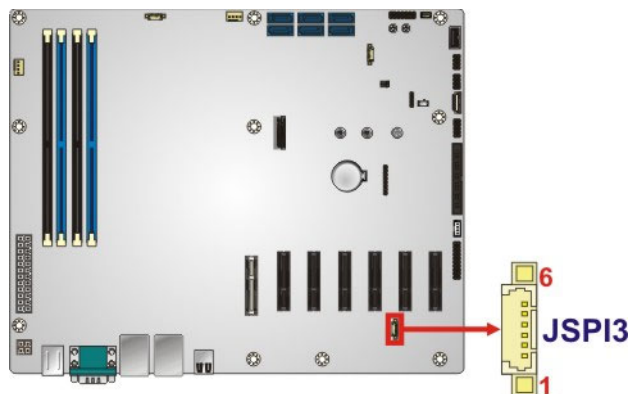

Figure 3-24: BMC SPI Flash Connector Location
- CN Location:** See **Figure 3-24**